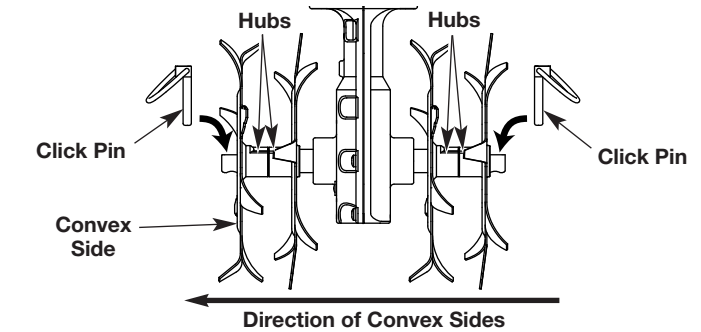

Fig. 8
3. Remove the click pins from each end of the tine shaft (Fig. 8). Slide the tines off of the shaft.
5. Slide on the new tines with the hubs facing in towards each other (Fig. 8).
NOTE: Each tine has a convex side. Make sure that all of the convex sides are facing as shown in Figure 8.
6. Secure the new tines to the shaft with click pins (Fig. 8).